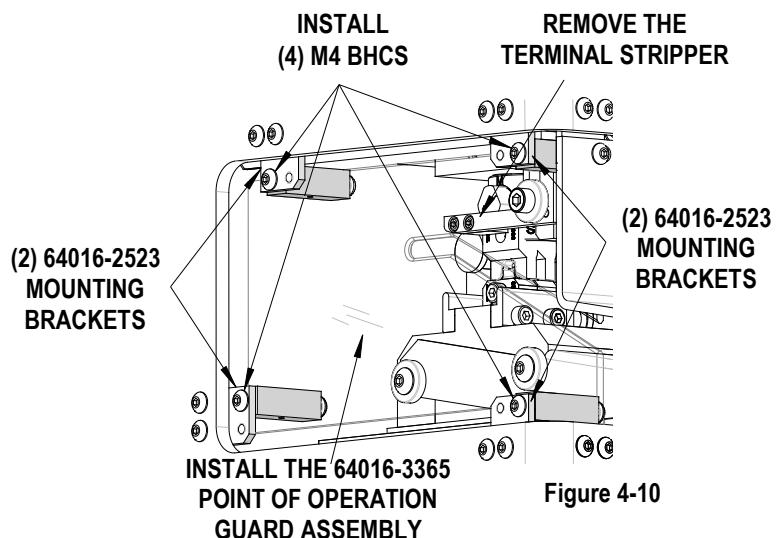

Figure 4-10
2. Remove the (4) M4 BHCS and any Point Of Operation Guard.
3. Place the 64016-3365 Point of Operation Guard Assembly on the far side of the (4) mounting brackets (64016-2523).
4. Install the (4) M4 BHCS into the clearance holes (not the tap holes). See Figure 4-10.